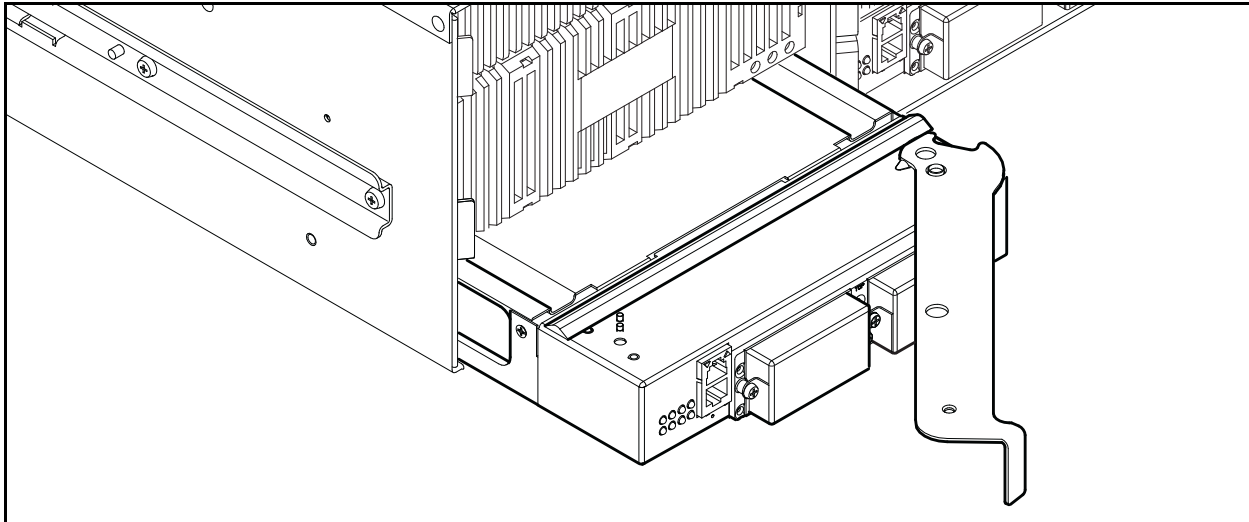

Figure 5-2 Removing the CPU0 Blade
7. Open the latch fully and pull the CPU blade by the latch to disengage the blade as shown in Figure 5-2.